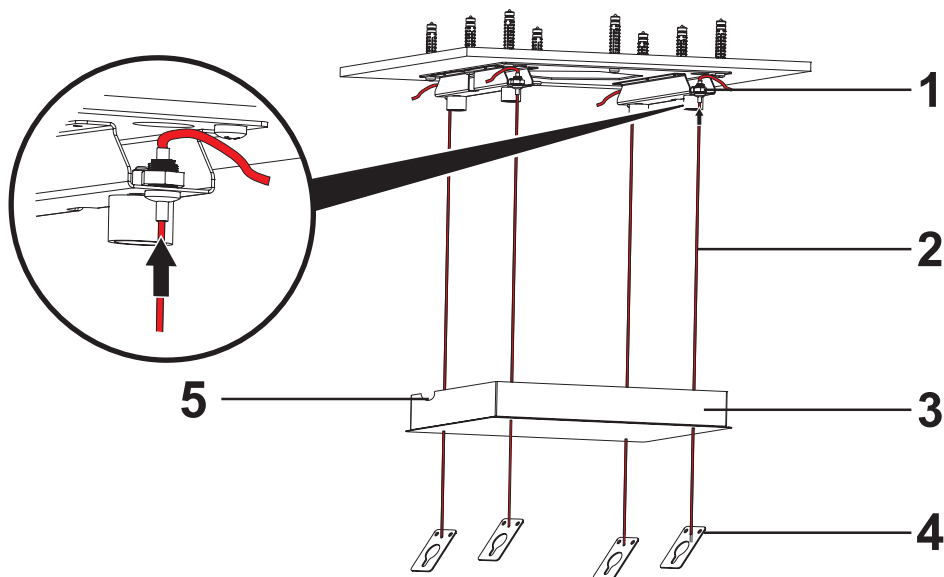

Fig. 12
1. ▶ Let the product hanger wires (2) through hanger plate (3). As this is done, the feeder cable passage area (5) should be on the right side when the appliance is viewed from the front (Fig. 12).
2. ▶ Let the product hanger wires (2) through hanger lock mechanism (1) lock mechanism. Ensure all hanger wires are required length and equal (Fig. 12).